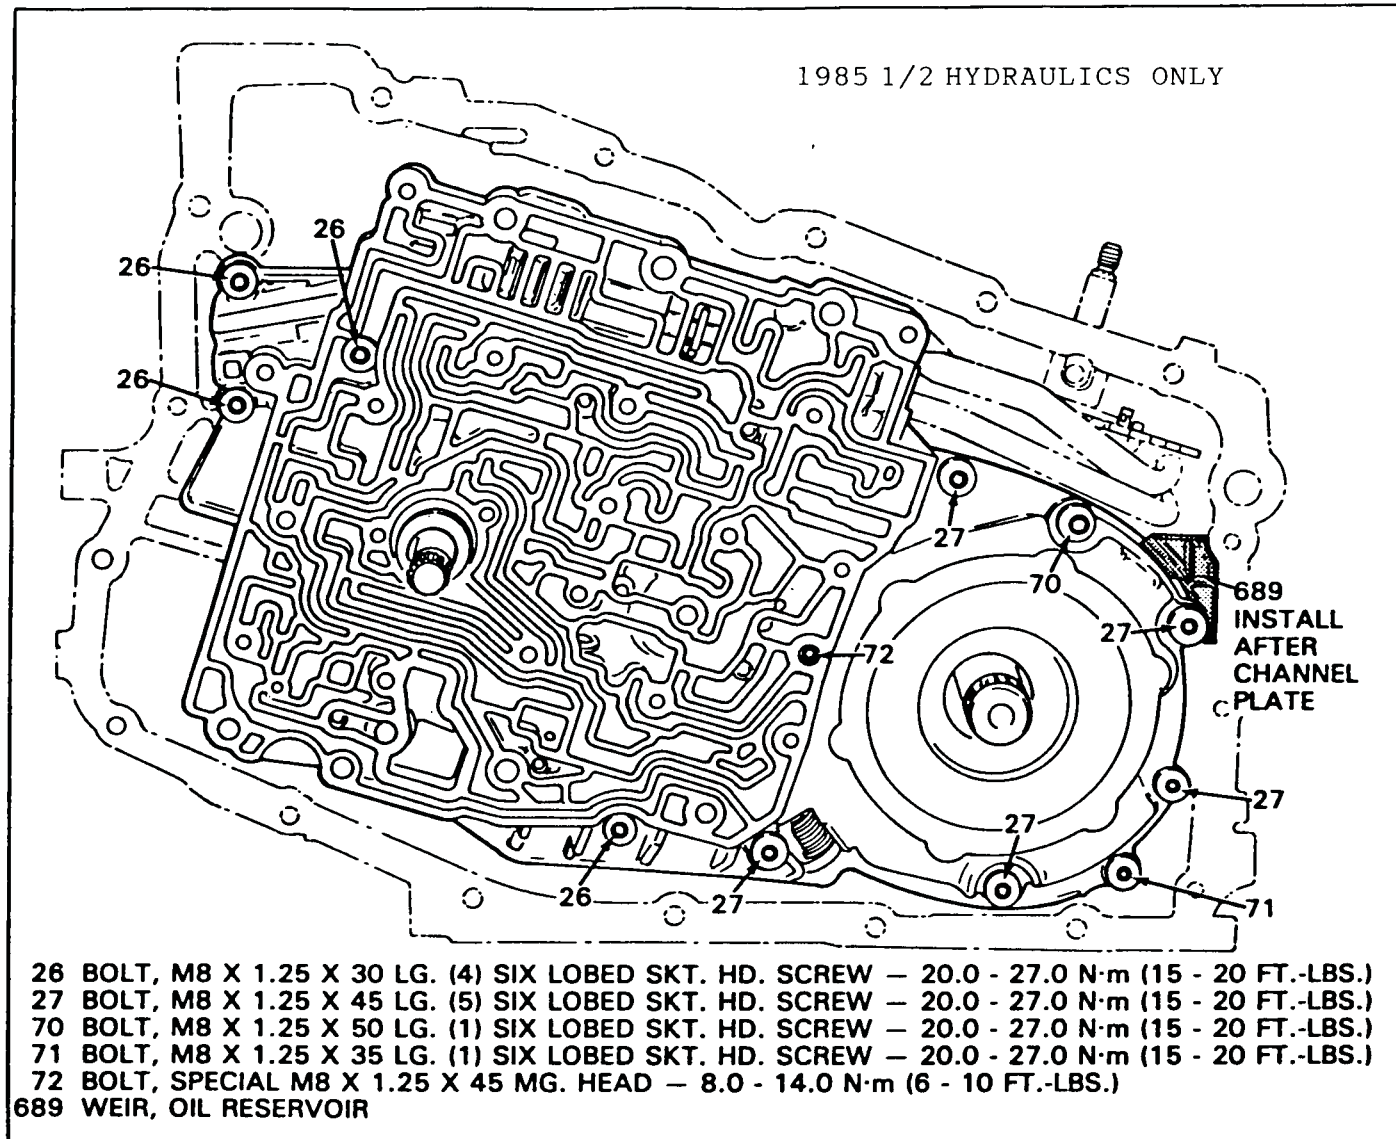

Figure 45
1. Remove oil weir from case, marked 689 in Figure 45.
3. Remove five 40 torx head bolts marked 26 & 71 in Figure 45. Notice that 71 is longer than all the rest.
4. Remove six 40 torx head bolts marked 27 & 70 in Figure 45. Notice that 70 is longer than all the rest.
6. Remove one 30 torx head bolt marked 72 in Figure 45. This bolt will be found on 85 1/2 hydraulics only.